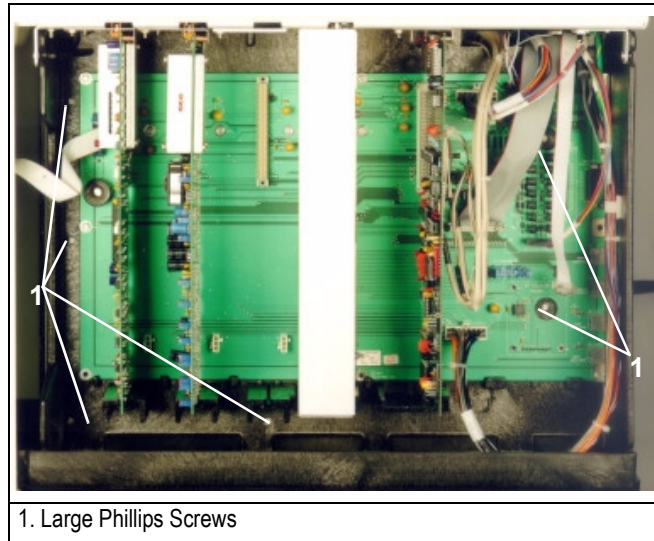

Figure B-7. TRACE GC 2000 Right Side View
1. Remove the six screws. Refer to Figure B-7.